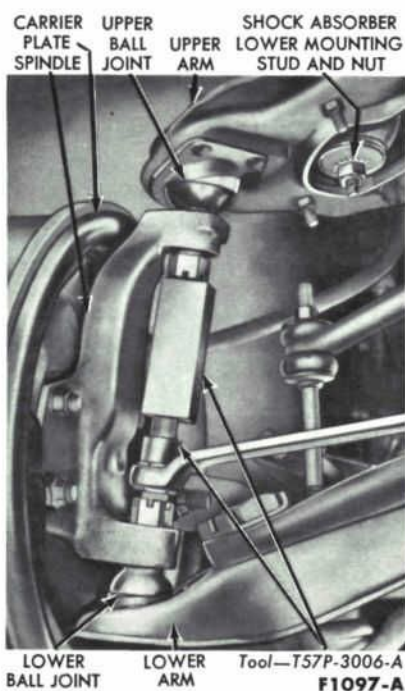

FIG. 97—Loosening Ball Joint Stud
2. Using a large chisel, cut off the three upper ball joint retaining rivets. If the rivets can not be removed with a chisel, use a drill. Do not bend the arm when driving out the rivets. Remove the cotter pin and loosen the upper ball joint stud nut. Place a box wrench over the lower end of the remover tool and position the tool as shown in Fig. 97. The tool should seat firmly against the ends of both studs, and not against the lower stud nut. It may be necessary to remove the cotter pin from the lower ball joint stud, if the cotter pin prevents the tool from seating on the lower stud.
tool CJ 89-1. Remove the cotter pins and loosen the ball joint stud nuts. Place a box wrench over the lower end of the remover tool and position the tool as shown in Fig. 97. The tool should seat firmly against the ends of both studs, not against the stud nuts.
2. Remove the cotter pin and loosen the upper ball joint stud nut. Place a box wrench over the lower end of the remover tool as shown in Fig. 97. The tool should seat firmly against the ends of both studs and not against the lower stud nut. It may be necessary to remove the cotter pin from the lower ball joint stud, if the cotter pin prevents the tool from seating on the lower stud.
3. Remove the cotter pin and loosen the lower ball joint stud nut. Place a box wrench over the end of the remover tool, and position the tool 180° from the position shown in Fig. 97 (wrench at the top). The tool should seat firmly against the ends of both studs, not against the upper stud nut. It may be necessary to remove the cotter pin from the upper ball joint stud, if the cotter pin prevents the tool from seating on the upper stud.